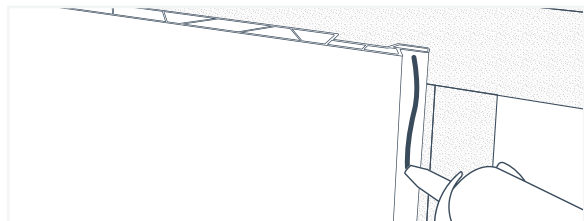
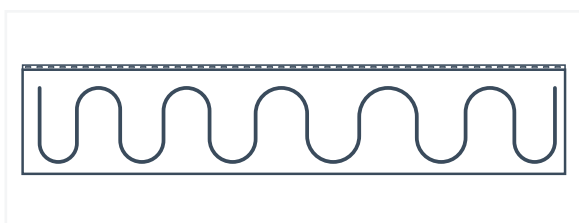

Fig. 45
Fig. 46
8. Then apply a smaller, 1/4" thick bead of silicone directly on top of the tongue of the existing adjacent panel (Fig.45). If you're using a backer, applying silicone to the back of the replacement panel is also recommended (Fig. 46).